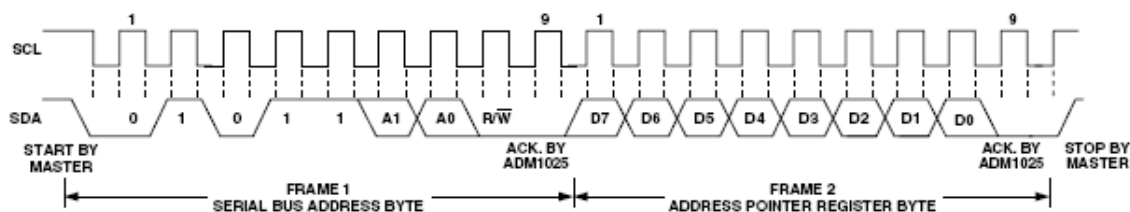

Figure 12. Writing to the Address Pointer Register Only
1. If the ADM1025/ADM1025A's Address Pointer Register value is unknown or not the desired value, it is first necessary to set it to the correct value before data can be read from the desired data register. This is done by performing a write to the ADM1025/ADM1025A as before, but only the data byte containing the register address is sent, since data should not be written to the register. This is shown in Figure 12.
2. If the Address Pointer Register is known to be already at the desired address, data can be read from the corresponding data register without first writing to the Address Pointer Register, so Figure 12 can be omitted.